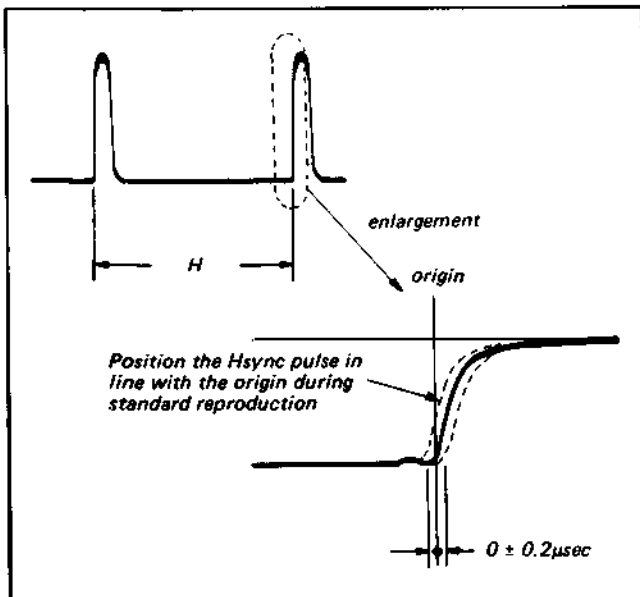

Fig. 4-12. Adjustment of drum speed compensation during beta scan (CUE/REVIEW)
- (1) Receive broadcast signal.
- (2) Record the broadcast signal at the middle of an L-750 cassette tape (where tape length is equal on the T-reel and the S-reel).
- (3) Connect an oscilloscope to TP28 on the YC-23 board.
- (4) Playback the recorded signal.
- (5) Position the rise of the waveform at the middle of the horizontal axis on the oscilloscope screen (see Fig. 4-12).
- (6) Press the FF button.
- (7) Adjust RV11 on SS-9 Board so that the deviation of the rising edge from the scale center is  $0 \pm 0.2 \mu\text{sec}$ .